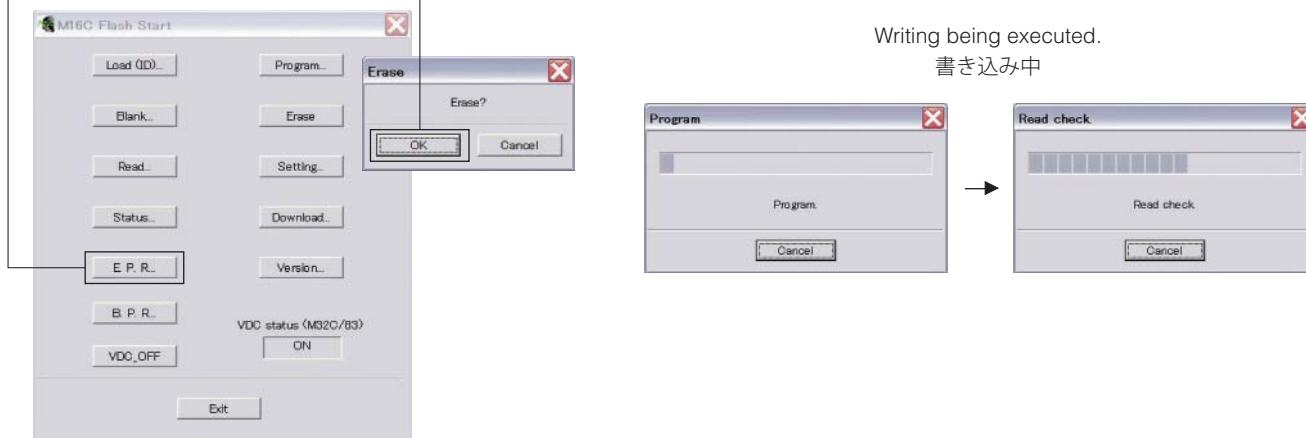

Fig. 6
7. Click [E.P.R.], then the "Erase" screen appears. (Fig. 6)
す。(Fig. 6)
8. Click [OK] to start writing. (Fig. 6)
(Fig. 6)